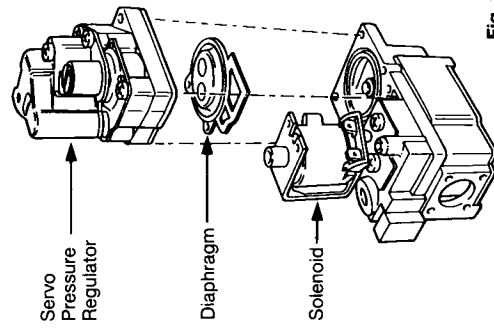

Fig. 35
**8.12.9 Servo Pressure Regulator (fig 35)**